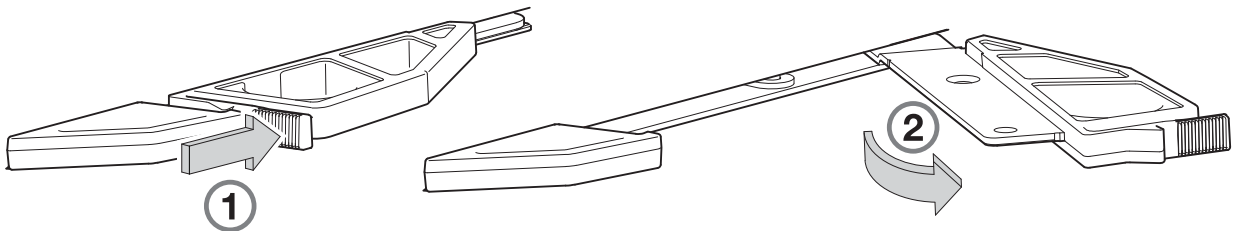
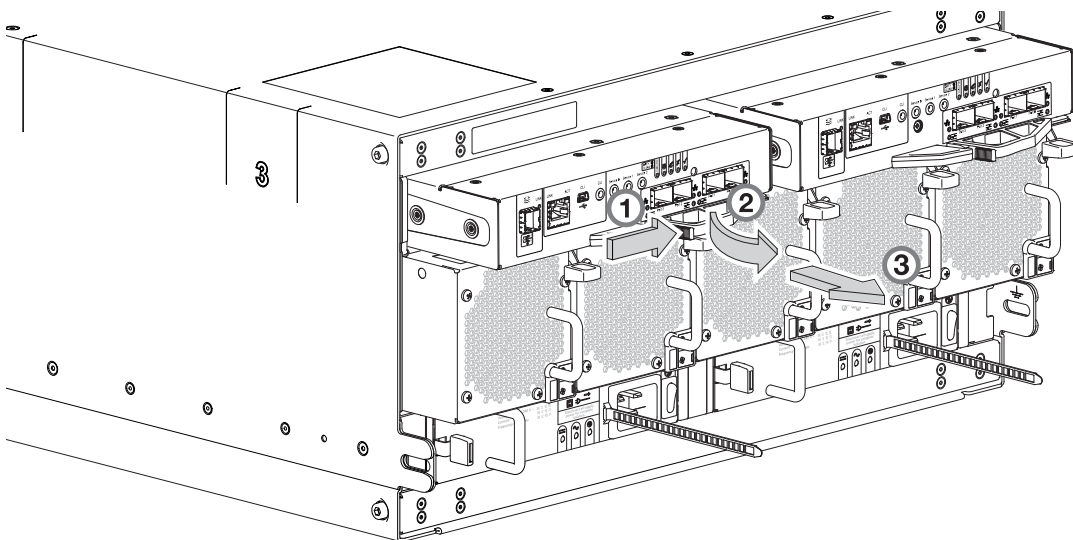

Figure 111 IOM latch operation detail
Figure 112 Removing an IOM (1 of 2)
4. Grasp the module latch between the thumb and forefinger, and squeeze the flange and handle together to release the latch handle from its docking member (detail No.1), and swing the latch out to release the IOM from its seated position (detail No.2) as shown in Figure 111 and Figure 112.
5. Grip the latch handle and ease the IOM outward from its installed position as shown in detail No.3 in Figure 112.
4. Set the module in position by manually closing the latch. See detail No.2, followed by No.1 in Figure 111 \(page 138\). You should hear a click as the latch handle engages, securing the IOM to its connector on the back of the midplane.